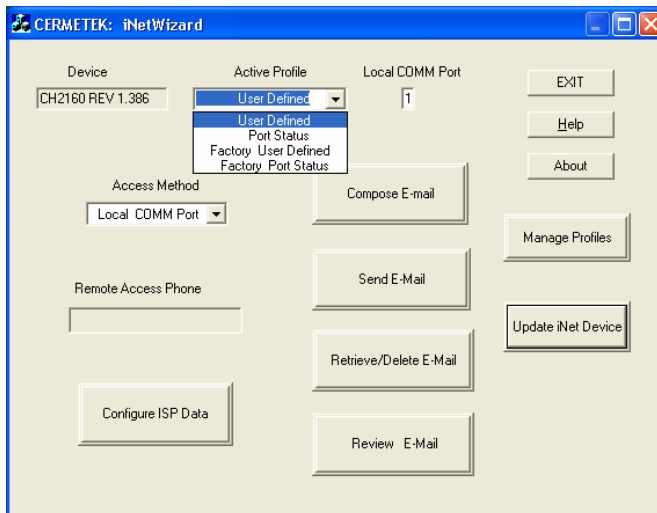
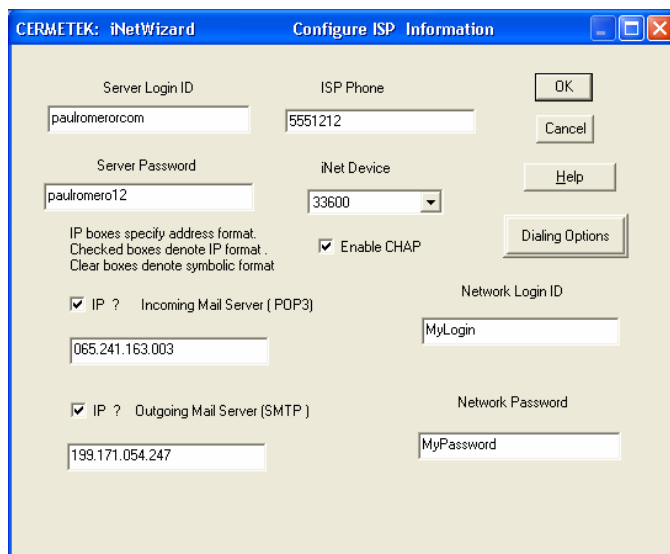

Figure 28. Restore the factory default parameters by selecting the User Defined message per Example 5.
Figure 32. Configure ISP Information Data window after all modifications per Example 5.
Step 1. Restore factory ISP parameters. Referring to Figure 28 (Opening Window), click on the down arrow on the Active Profile dialog box. Highlight, then single click on FACTORY USER DEFINED. This will cause iNetWizard® to transfer to the Local Configuration Profile the factory default parameters.
Step 3C. Edit the NETWORK PASSWORD. As in Step 3A, highlight the NETWORK PASSWORD data and make the character edits. Do not enter <CR> after the required edits as this will cause iNetWizard® to exit the CONFIGURE ISP INFORMATION window after executing the specified change(s). See Figure 32.
- Step 6. Display the default ISP internet parameters. Referring to Figure 28, click on the CONFIGURE ISP button. See Figure 32.